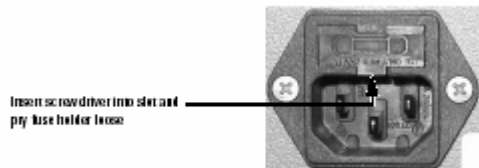

Figure 8 Removing the fuse holder
3. Using a small, flat-bladed screwdriver pry the fuse holder from the back of the unit. See Figure 8.